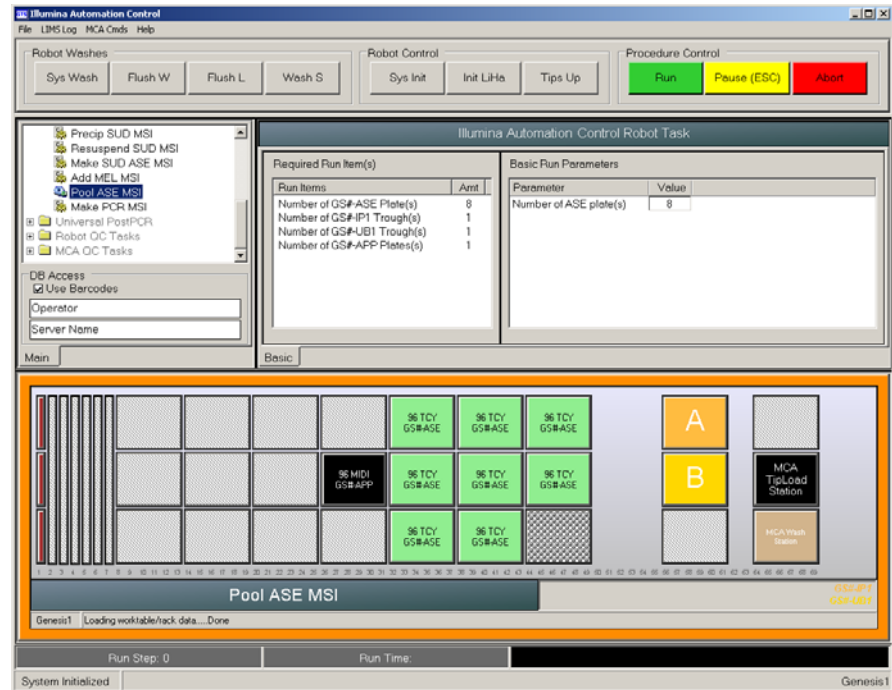

Figure 32 Universal MSI PrePCR | Pool ASE MSI
1. From the robot PC, select **Universal MSI PrePCR | Pool ASE MSI** (Figure 32).